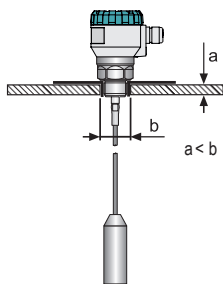

Fig. 8: Level meter installation on the roof of the concrete silo
- When installing the level meter into the roof of a concrete silo, the level meter installation hole b must be larger than the thickness of the concrete a , see fig. 8.